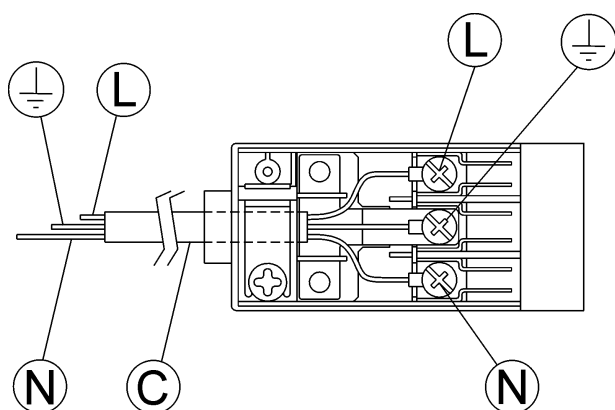

FIG. 14
- apply to the input cable "C", if unprovided (see fig. 14) a normalized plug adequate to the load indicated in the identification label. Connect the cables according to the scheme of fig. 14, making sure to respect the undermentioned correspondences: